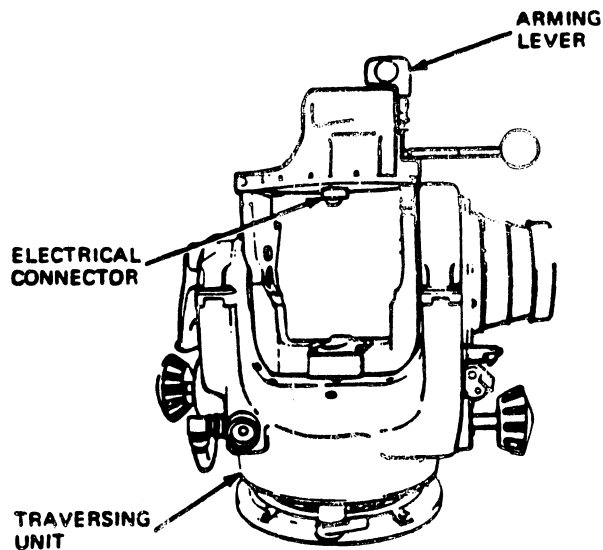

Fig 3-5. Traversing unit--continued.
Step 8. Raise the arming lever to ensure that the electrical connector extends approximately 1 inch, and lower the arming lever (fig 3-5).